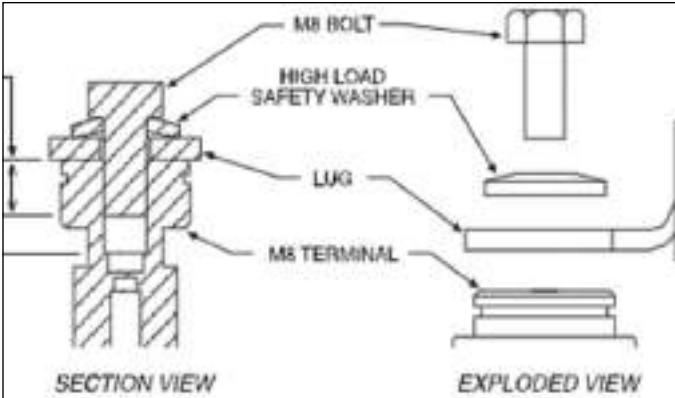

Figure 4-5: Heavy Cable Hardware and Assembly
7. Reassemble in reverse order. All cables installed on the motor controllers must use all the required Landoll approved fasteners and be in the correct assembled order. **See Figure 4-5.** Refer to the SLT30/35 AC Parts Manual for replacement parts.
See Figure 4-5.